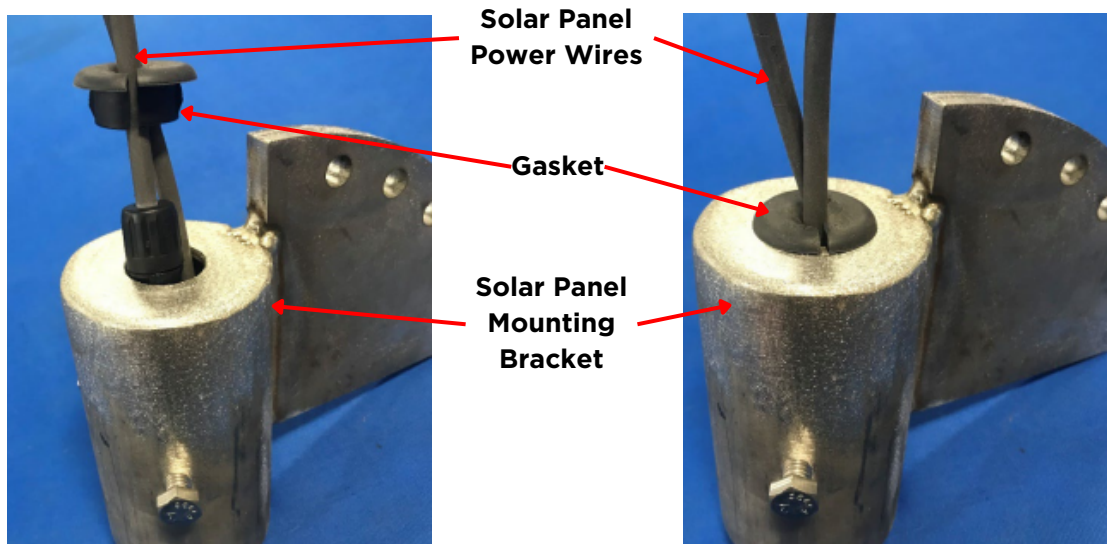

Figure 3
- **Route solar panel power wiring through mount** - Fish the solar panel power wires up through the top of the panel mounting bracket. Use the provided gasket to seal in top hole once wires are fed through. See figure 3.